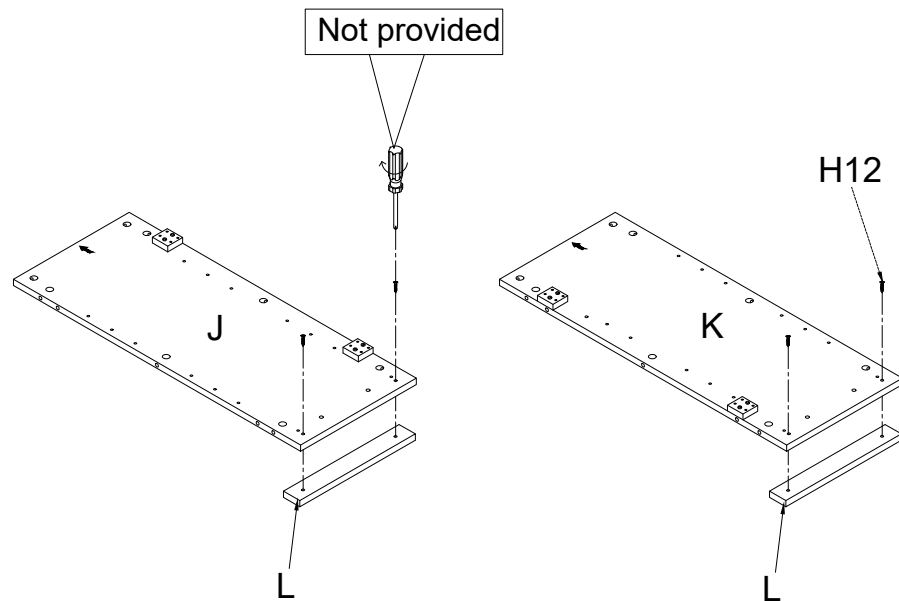

Figure 2
Place Side panel trim (L) on a soft smooth surface with the holes facing up. Align the holes in Right side panel (J) with the holes of Side panel trim (L) and secure in place with Flat head screw (H12) using the screwdriver (Not provided) as shown in figure 2. Fully tighten all screws. Repeat this process to install Side panel trim (L) to Left side panel (K).